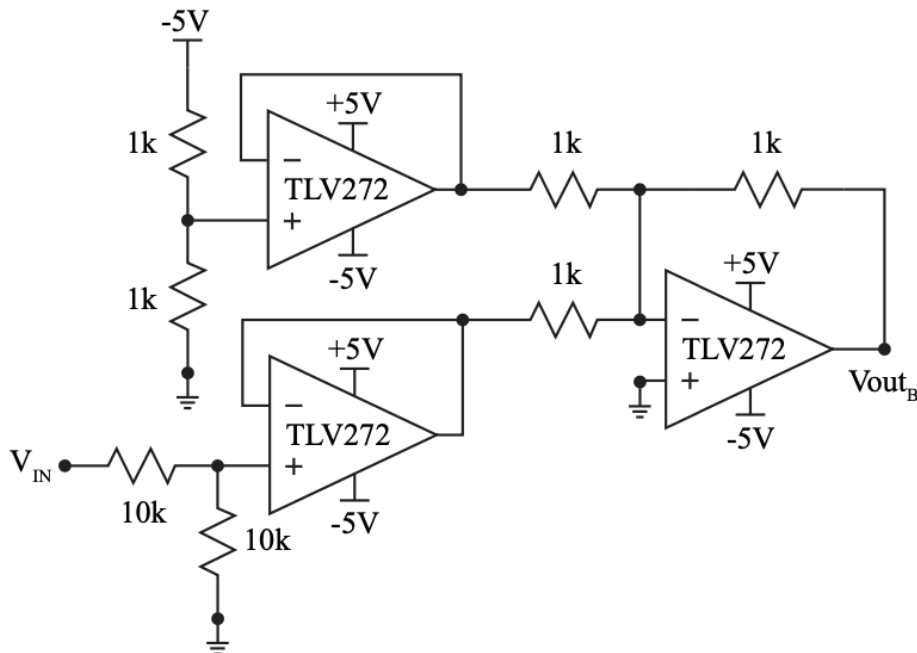

Figure 6.5: A DC level shifter configured to convert the full range of $\pm 5\text{ V}$ to $+5/0\text{ V}$.
5. In the more general case, the full range of input must be accounted for. Simulate the circuit in Figure 6.5 using a transient analysis with a stop time of 1m (.tran 1m). Set V_{IN} to a sine wave with a 0 V DC offset, 5 V amplitude, and a 1 kHz frequency. Save an image of the circuit and a plot of the input and output voltage.